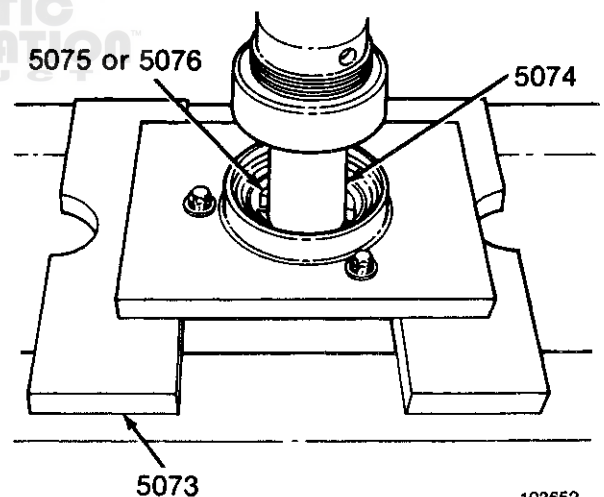

Fig. 10
13. Place on press and press out inner bearing race, rotate and press out outer bearing race (Fig. 10).